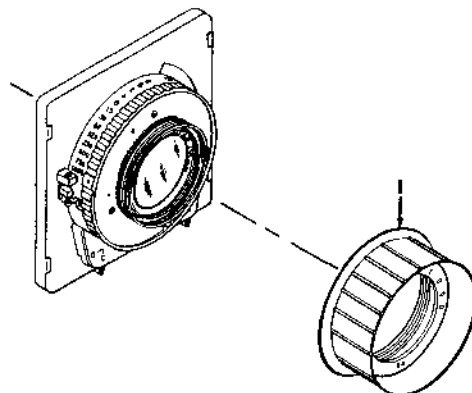

Figure 18.
m. Assemble winding knob assembly (1, Figure 18).